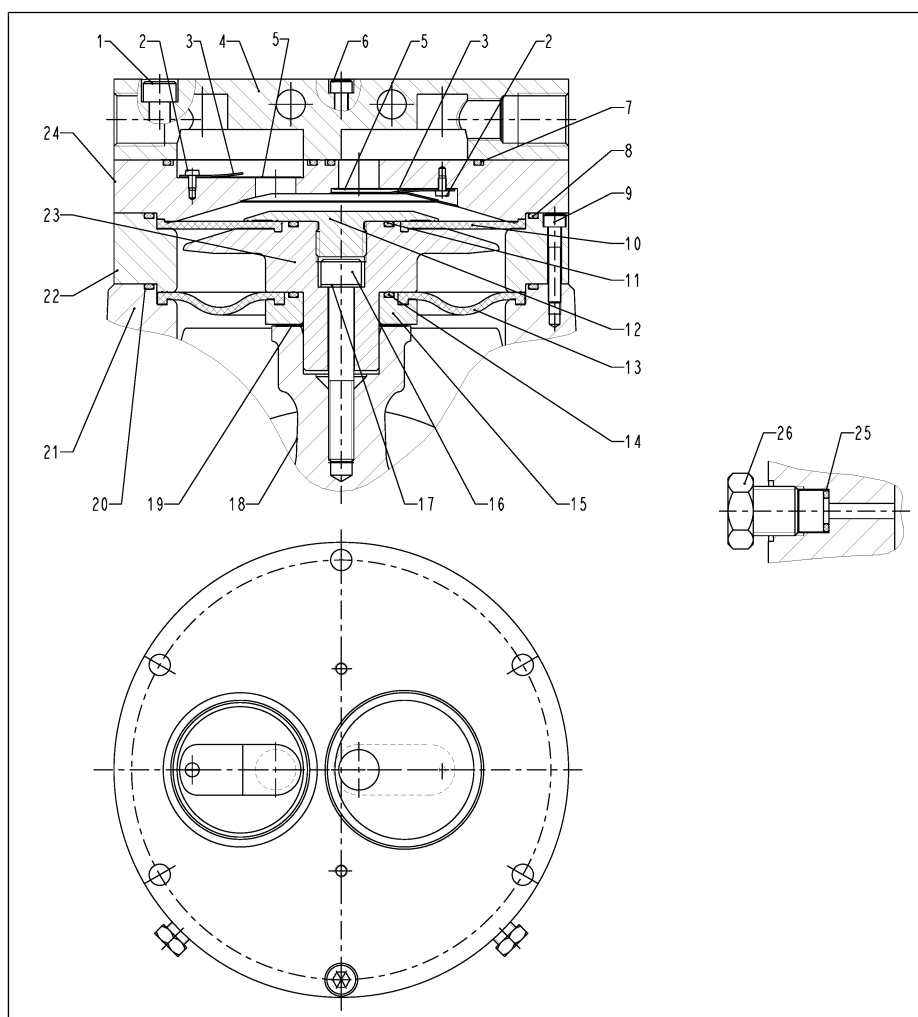

Fig.11 Individual parts of the pump head
** According to Fig. 11
The following item numbers refer to Fig. 11.